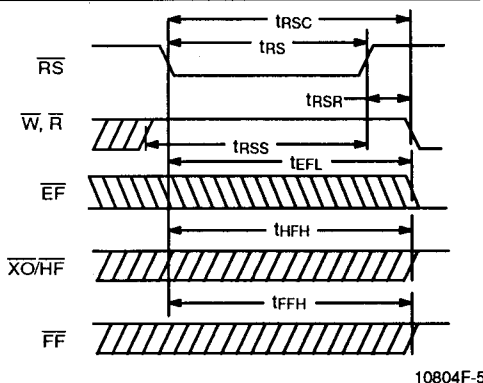

Figure 2. Reset Timing
Upon power up, the FIFO must be initialized with a Reset cycle. (See Figure 2.) The states of XI and FL are used during the reset cycle to determine the FIFO's mode of operation, as shown in Tables 1 and 2. For a valid reset cycle to occur, both the Read (\bar{R}) and Write (\bar{W}) signals must be HIGH t_{RSS} prior to and t_{RSR} after the rising edge of Reset (\overline{RS}). The reset cycle initializes the FIFO to an empty condition, signified by the Empty Flag (\overline{EF}) being LOW, active, and both the Half-Full (HF) and Full Flag (\overline{FF}) being HIGH, inactive.